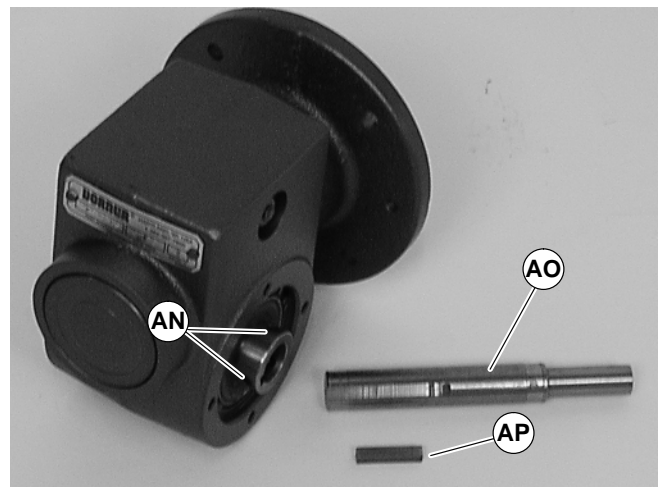

Figure 20
7. Remove two (2) screws (AK) and detach output shaft cover (AL).
8. Remove gear reducer output shaft key (AM).
9. Loosen six (6) set screws (AN of Figure 20). Remove drive shaft (AO) and key (AP).
11. Replace the original shaft components into new gear reducer (see Figure 20).